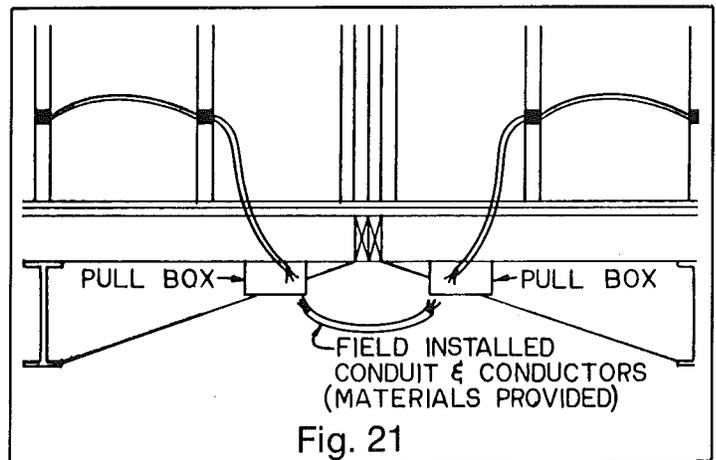

Fig. 21
1. Remove the pull box covers and install the provided conduit and conductors between the boxes (See Fig. 21).